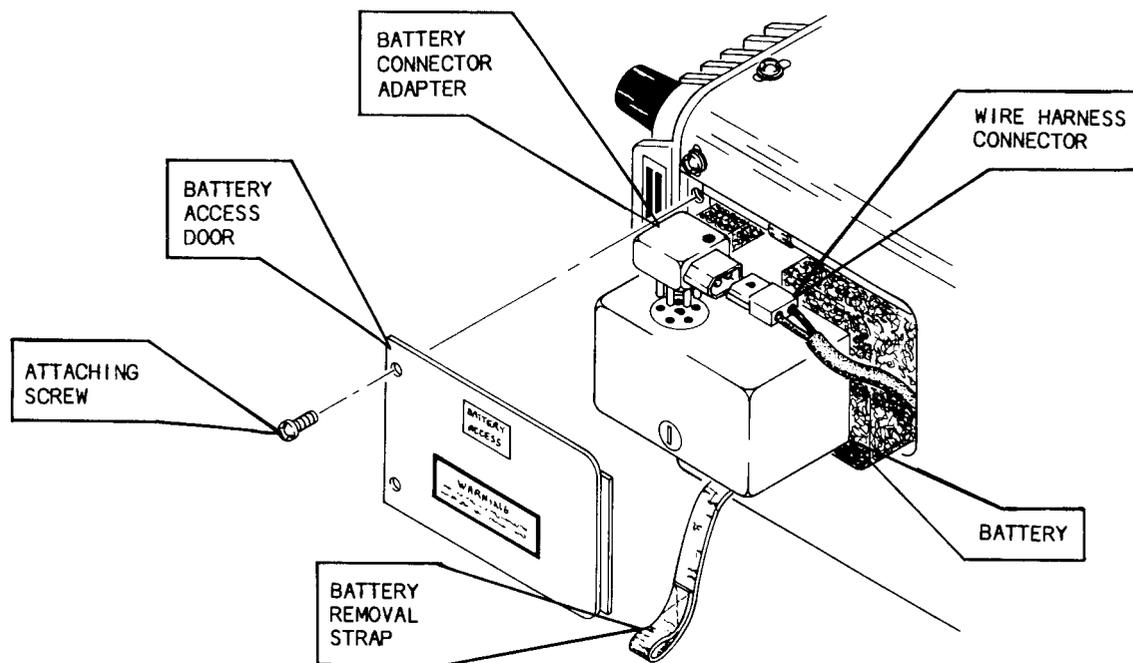

Figure 2-1 Battery Removal and Installation
**2-9. BATTERY REMOVAL (SEE FIGURE 2-1).**
**2-10. BATTERY INSTALLATION (SEE FIGURE 2-1).**